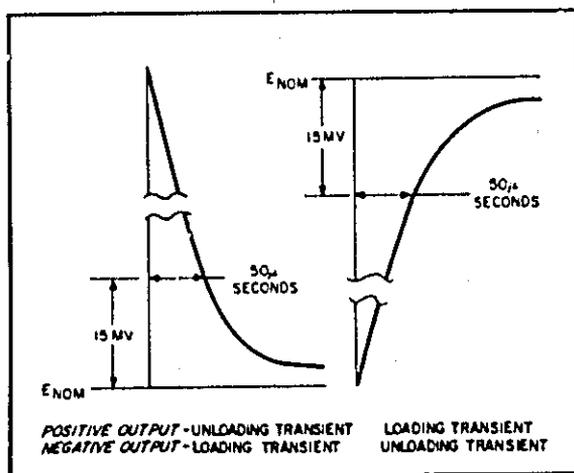

Figure 5-6. Load Transient Recovery Time Waveforms
i. Starting from the major graticule division representing time zero, count to the right  $50\mu\text{s}$  and vertically  $15\text{mV}$ . Recovery should be within these tolerances, as illustrated in Figure 5-6.